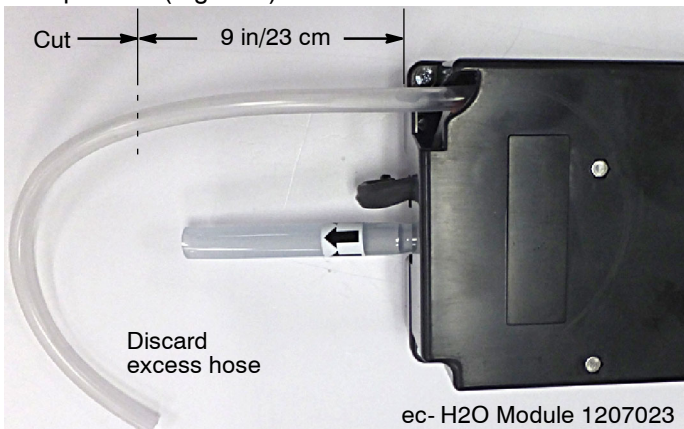

Fig. 2
1. Cut the intake hose on the ec- H2O module as specified (Figure 2)